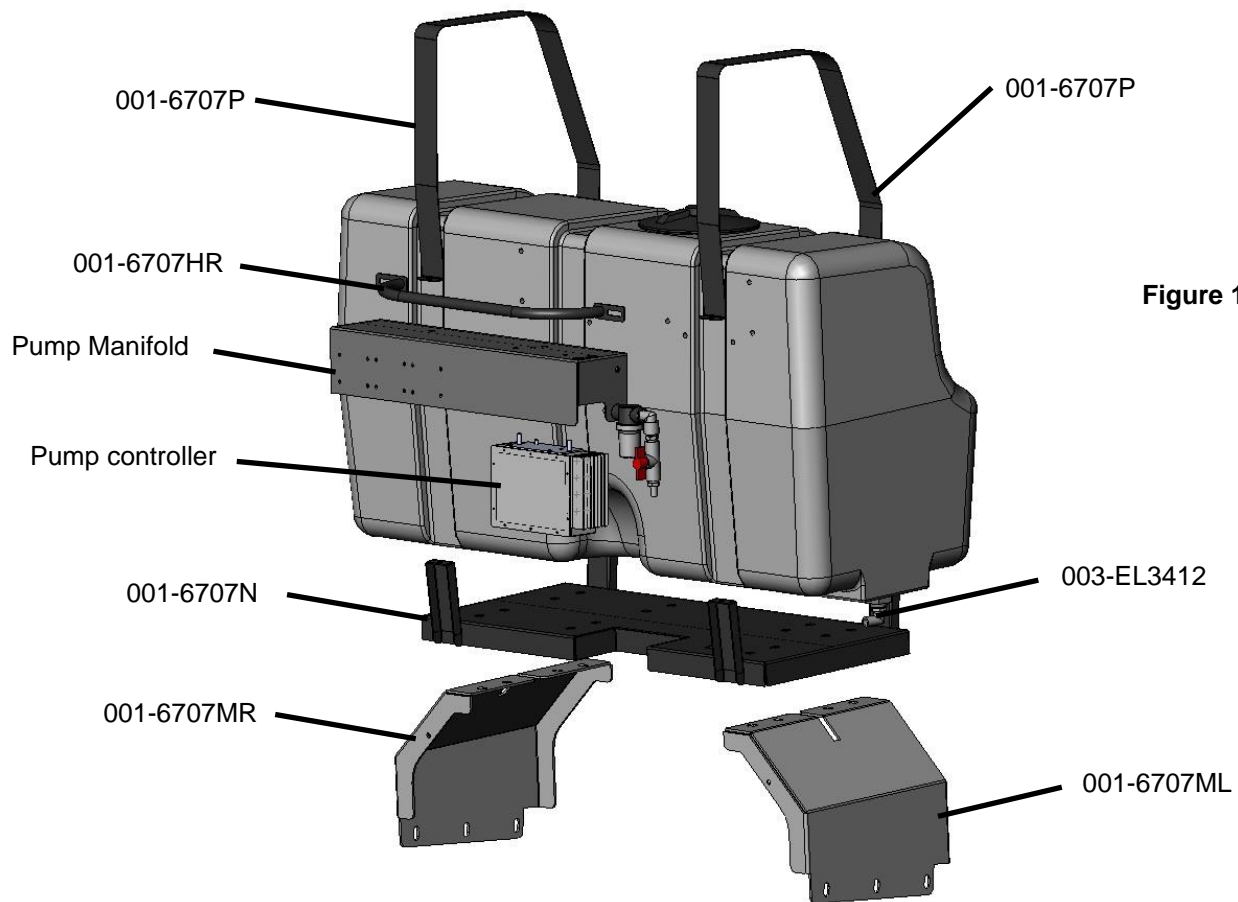

Figure 1
1. Remove the two tank straps (001-6707P) by removing all eight 3/8" hex nuts. Figure 1
3. Install the pump supply elbow (003-EL3412) on the bottom of the tank. Figure 1
4. Install the Pump Controller (006-5672) in to the pump manifold. Secure using two 5/16" lock washers, flat washers and hex nuts. Figure 1